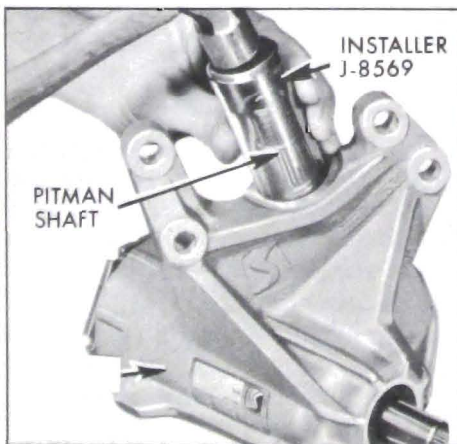

Figure 8-17—Installing Pitman Shaft Seal
8. To protect pitman shaft seal from damage, cover shaft splines with masking tape. Slide new seal into place and seat against shoulder in housing using Installer J-8569. See Figure 8-17.